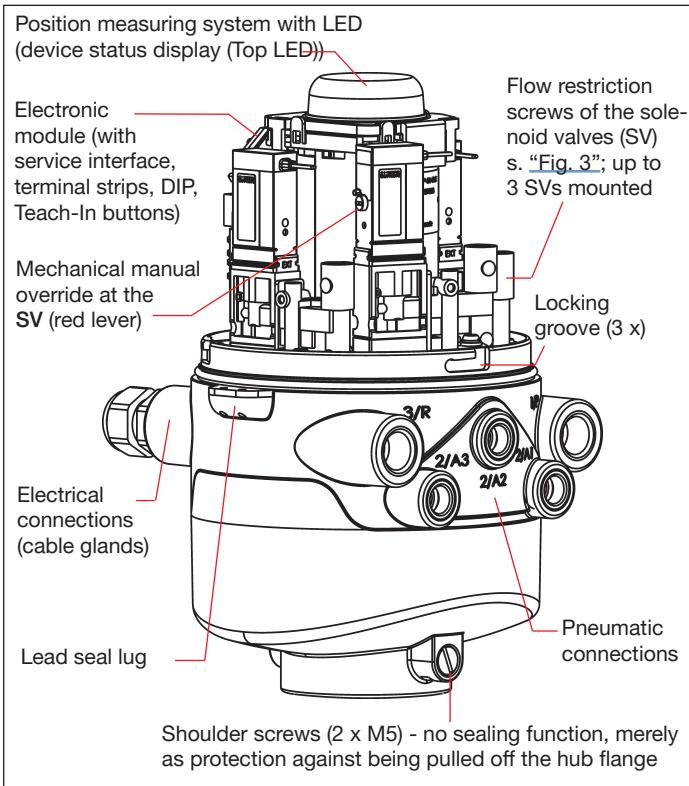

Fig. 1: Structure
- Secure the control head with the two locking screws (shoulder screws M5, tightening torque: max. 3.2 Nm) in the middle groove of the hub flange against unintentional removal (not fixed into position! – see “Fig. 1” or Operating Instructions, chapter “Assembly”).